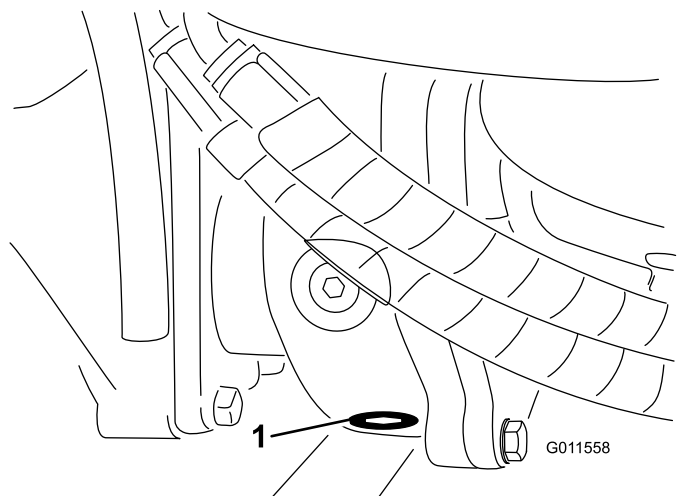

Figure 95
5. Clean the area around the drain plug at the bottom of the gearbox (Figure 95).